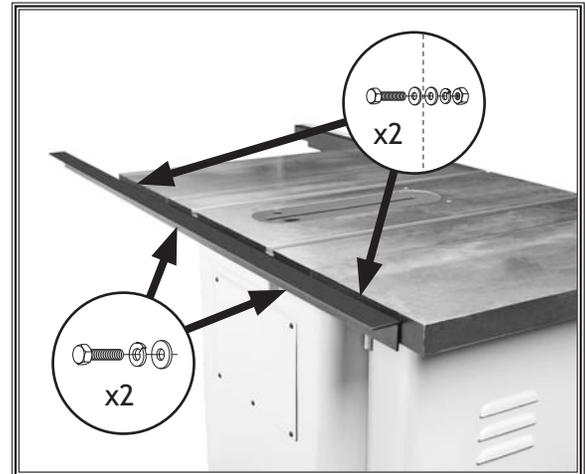

Figure 18. Rear rail attached parallel with the table top.
- Attach the rear rail to the table with (2) M10-1.5 x 25 hex bolts, 10mm lock washers, and 10mm flat washers, as shown in **Figure 18**.
- Secure the rear rail to the extension wings with (2) M8-1.25 x 35 hex bolts, (4) 8mm flat washers, (2) 8mm lock washers, and (2) M8-1.25 hex nuts, as shown in **Figure 18**.